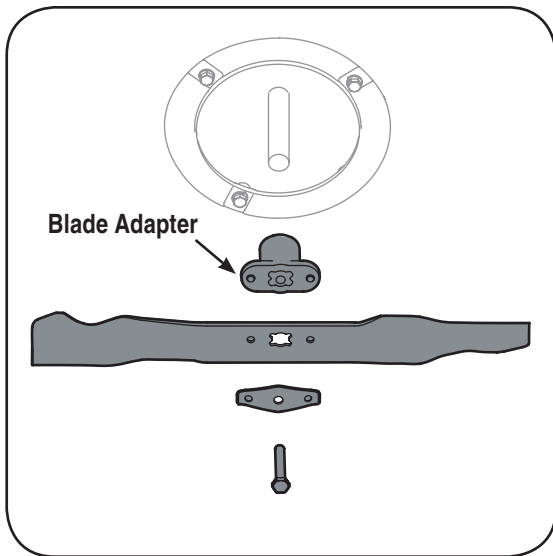

Figure 5-2
3. Remove the bolt and the blade bell support which hold the blade and the blade adapter to the engine crankshaft. See Figure 5-2.
9. Install the blade adapter on the crankshaft with the "star" away from the engine. See Figure 5-2. Place the blade with the side marked "bottom" (or with part number) facing away from the adapter. Align the blade bell support over the blade with the tabs in the holes of the blade and insert the hex bolt.